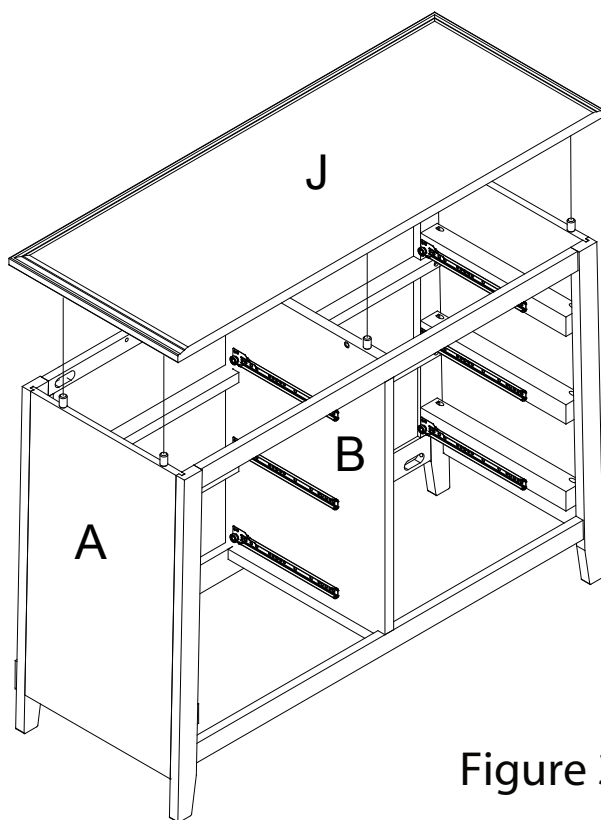

Figure 3
- ③ Attach Top Panel (J) to Side panel as Figure 3.
3. Secure both sides of Drawer Front (R) to drawer assembly with four (4) Screws (g). *Figure 3.*